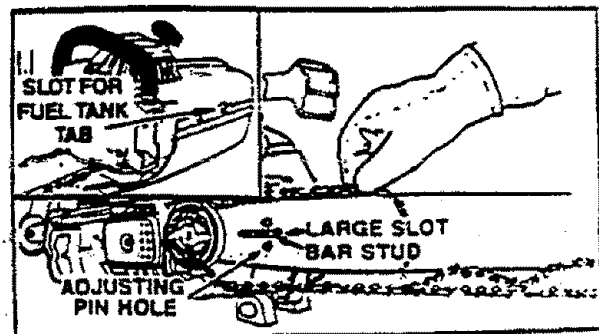

Figure 8
- Place the Guide Bar on the saw by fitting the large slot in the Guide Bar over the Bar Stud. Figure 8.